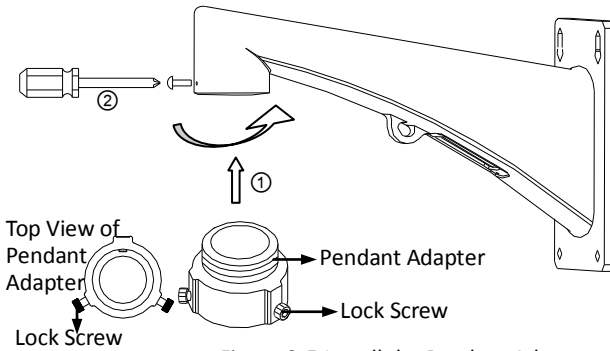

Figure 2-5 Install the Pendant Adapter
8. Secure the pendant adapter to the wall mount with a set screw as shown in Figure 2-5.